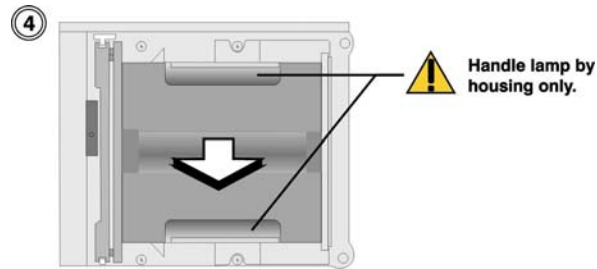

Figure 48. Lamp Handles
4. Grasp the lamp by its housing only and pull it straight out (lamp slides along guides) until it's free. (Figure 48.) Discard the lamp using safe disposal/recycling practices or contact Christie for a possible re-lamping program.